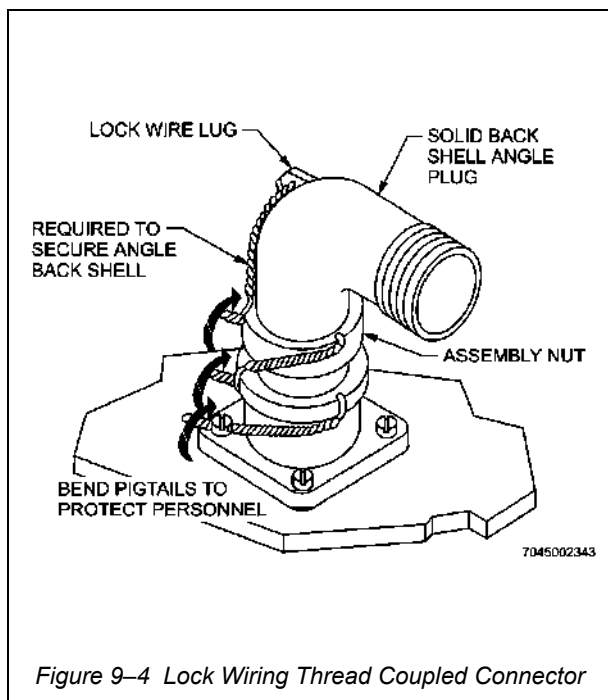

Figure 9-4 Lock Wiring Thread Coupled Connector
16. When specified on engineering drawings or specified in the applicable aircraft maintenance handbook, lock wire connectors as follows (see Figure 9-4):
- f. Safety wire attached cable clamps/coupling ring to connector coupling ring if provisions exist. (See Figure 9-4.) If necessary, safety wire these parts to structure (see Figure 9-8) or to mounting flange (see Figure 9-9). Use same procedure as described in steps a through e.
19. Angle plugs with solid black shells are in two parts, held together by four screws through mating flanges. Wire these screws with a single lock wire as shown in Figure 9-2. Solid shell angle plugs made by Bendix and Cannon have back shells held in place by assembly nuts. Install a double twisted lock wire between hole in assembly nut and lug on backshell as shown in Figure 9-4. If necessary to lock wire the plug itself install a second double twisted wire between the assembly nut and the coupling nut or between the coupling nut and one of the receptacle mounting screws, as shown in Figure 9-4.